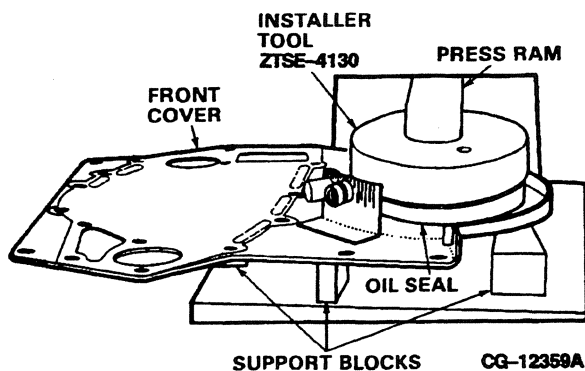
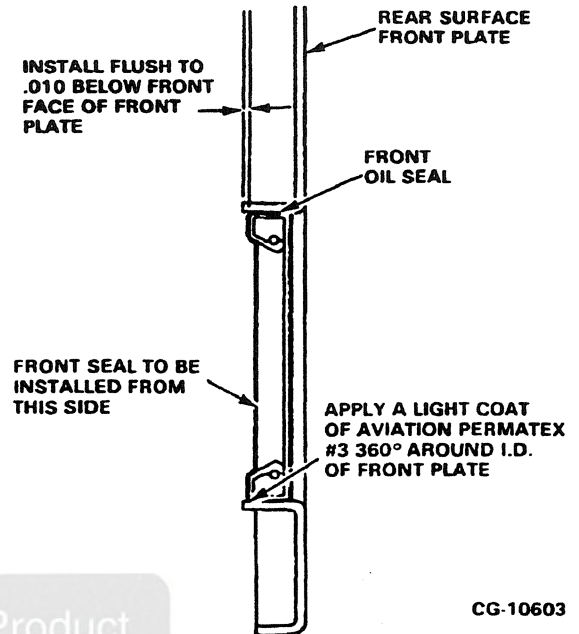

Figure 6.9. Pressing New Seal in Engine Front Cover Using Installer and Support Blocks
Figure 6.10. Front Oil Seal Installation
1. Coat I.D. of front cover with Aviation Permatex™ #3 and press new front oil seal in engine front cover using the front crankshaft seal installer ZTSE-4130 and support blocks (Figure 6.9). Install the oil seal flush to 0.010" below the front face of the front cover, Figure 6.10.